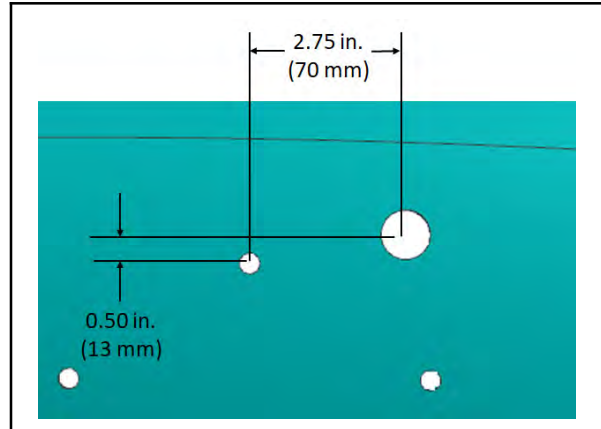

FIG. 26
- Measure and mark a location for the harness routing hole onto the front shroud. (Fig. 26)
- Drill a 0.886 in. (22.5 mm) hole for harness routing completely through the front shroud. **Do Not** drill into any parts/components located behind the front shroud. (Fig. 26)